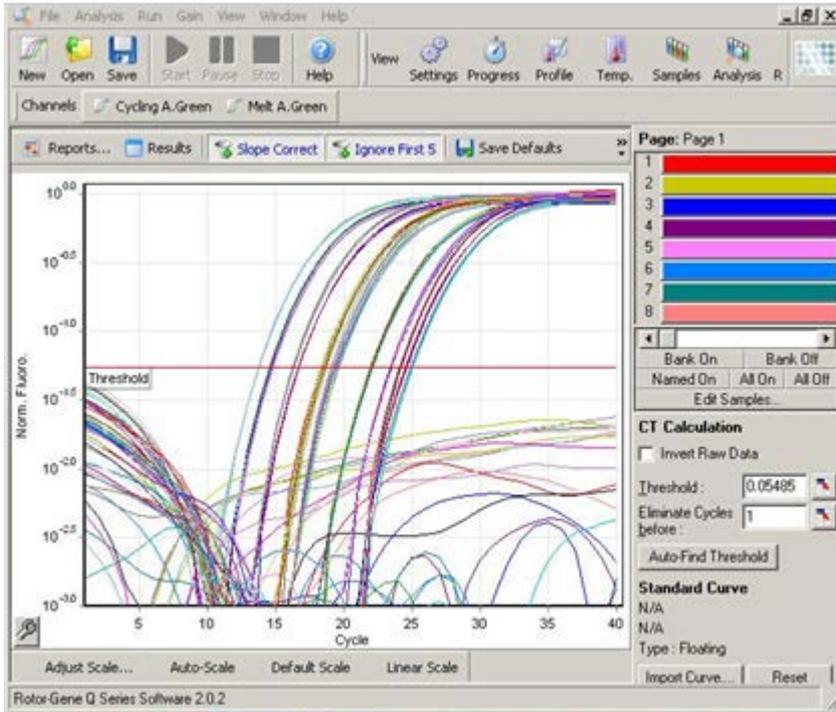

Figure 3. Setting the threshold.
21. Manually define the threshold value (Figure 3):